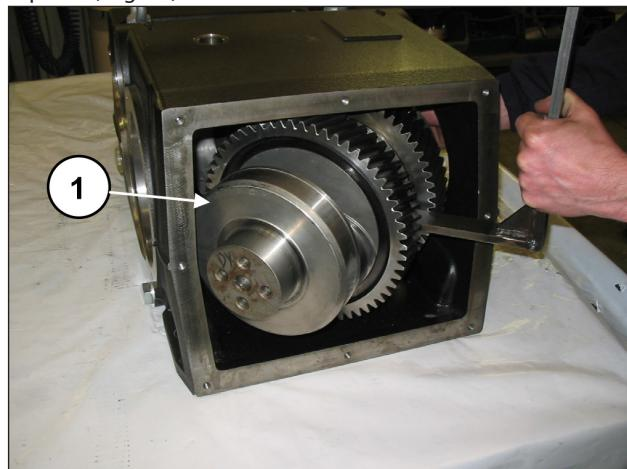

Fig. 39
Remove the crankshaft from the back of the casing (pos. ① pos. ①, Fig. 39).